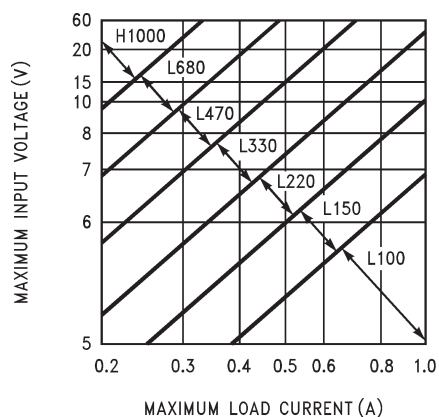
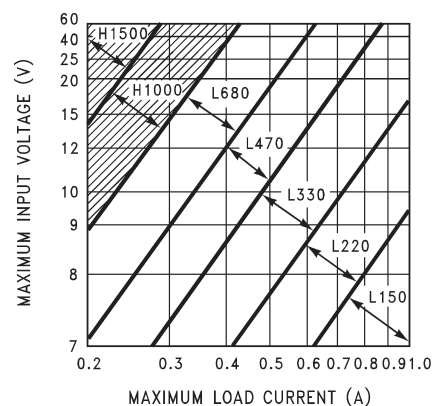
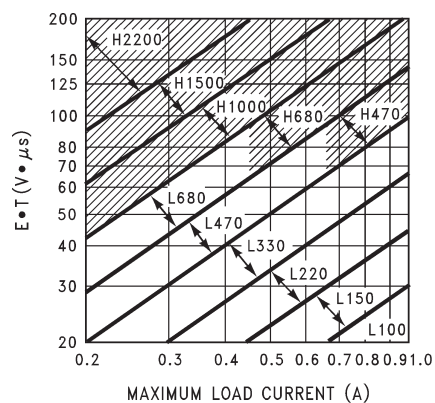

Figure 12. TL2575-33
Figure 13. TL2575-50
Figure 14. TL2575-ADJ
1. Inductor Selection (L1) A. From Figure 12 through Figure 14 , select the appropriate inductor code based on the intersection of $V_{IN(Max)}$ and $I_{LOAD(Max)}$. B. From Table 2 , choose the appropriate inductor based on the inductor code. Parts from three well-known inductor manufacturers are given. The inductor chosen should be rated for operation at 52-kHz and have a current rating of at least $1.15 \times I_{LOAD(Max)}$ to allow for the ripple current. The actual peak current in L1 (in normal operation) can be calculated as follows: $I_{L1(pk)} = I_{LOAD(Max)} + (V_{IN} - V_{OUT}) \times t_{on}/2L1$ Where $t_{on} = V_{OUT}/V_{IN} \times (1/f_{osc})$	1. Inductor Selection (L1) A. From Figure 13 (TL2575-05), the intersection of 20-V line and 1-A line gives an inductor code of L330. B. L330 \rightarrow L1 = 330 μ H Choose from: 34042 (Schott) PE-52627 (Pulse Engineering) RL1952 (Renco)